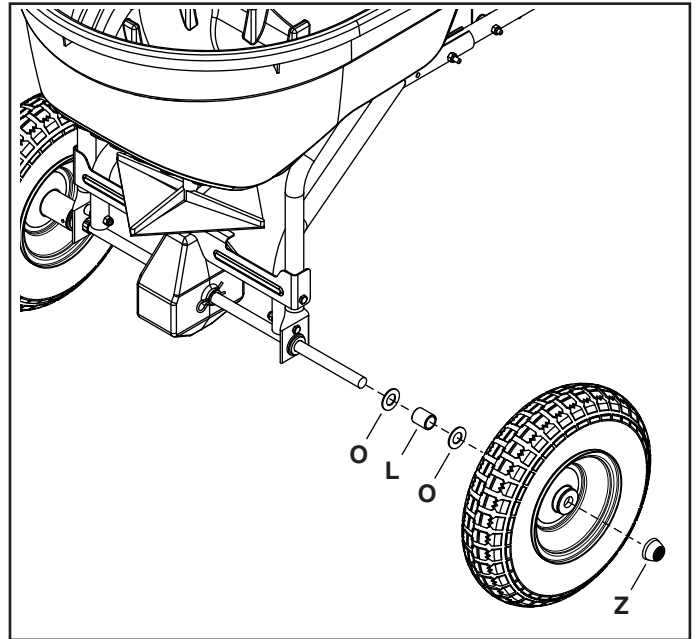

FIGURE 15
STEP 16: (SEE FIGURE 15)
- Slide a 5/8" washer (O), a spacer (L), a 5/8" washer (O) and a wheel onto the end of the axle with no hole.
- Carefully hammer a hub cap (Z) onto the axle.
(Refer to Figure 15 on page 7.)